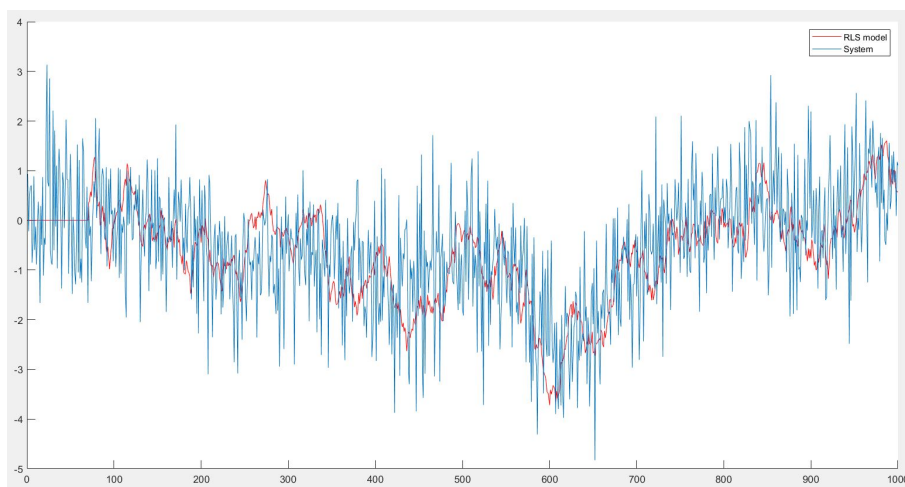

Figure 1.18: output of both system and RLS model for first input
2. For this part, you can look at the Figure 1.18. Where  $\sigma_e^2 = 1$  and